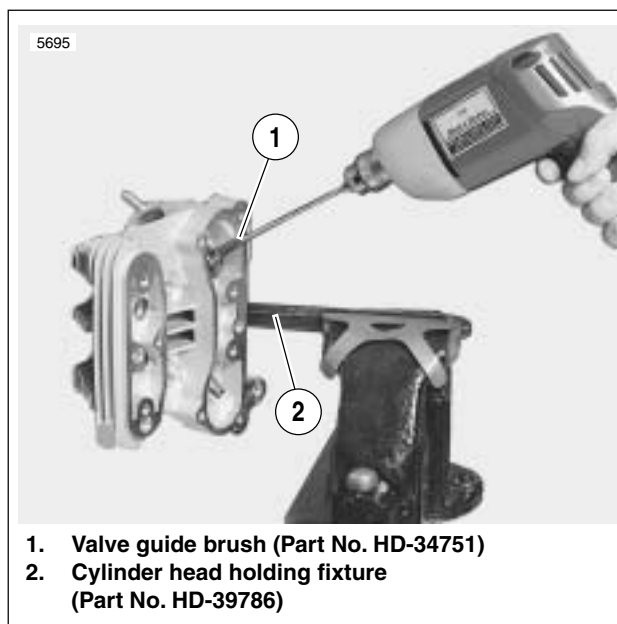

Figure 3-77. Cleaning Valve Guides
7. See Figure 3-77. Thoroughly clean valve guide bores using VALVE GUIDE BRUSH (Part No. HD-34751) and hot soapy water.